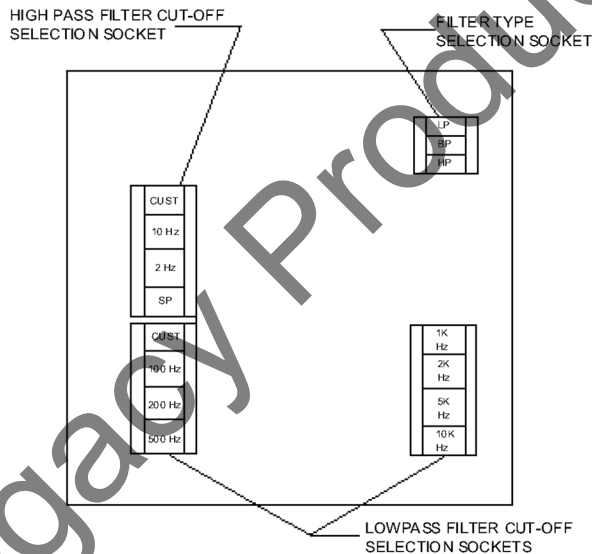

FIGURE 6-1: JUMPER POSITIONS
1. Place a DIP jumper at the proper position to select the mode, i.e., LP (low-pass) or HP (high-pass). (See Figure 6-1).
2. Install another jumper to select the desired high-pass or low-pass cut-off (corner) frequency. (See Figure 6-1).
2. Install two jumpers to select a cut-off frequency from the low-pass (LP) filter section and a cut-off frequency from the high-pass (HP) filter section. (See Figure 6-1).